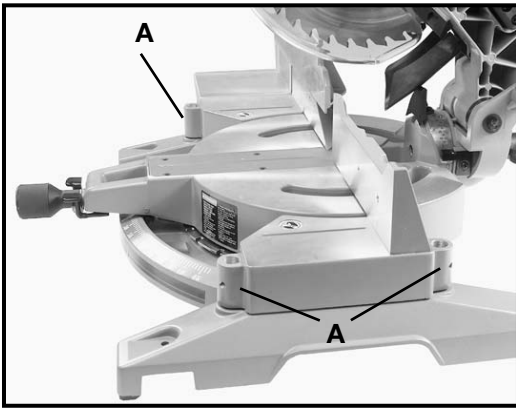

Fig. 18
The work clamp is an important accessory. After purchase, the work clamp can be attached to any one of the four holes (A) Fig. 18, provided on the base of the machine, (three of which are shown).